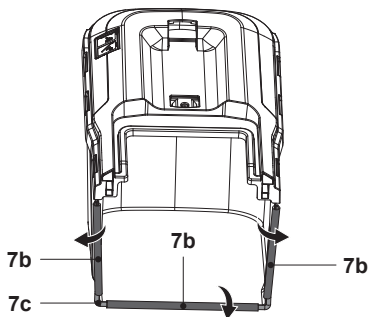

Fig. 5
1. Clip the three rubber clips (7b) onto the supporting rod (7c) of the grass catcher (7) (Fig. 5).